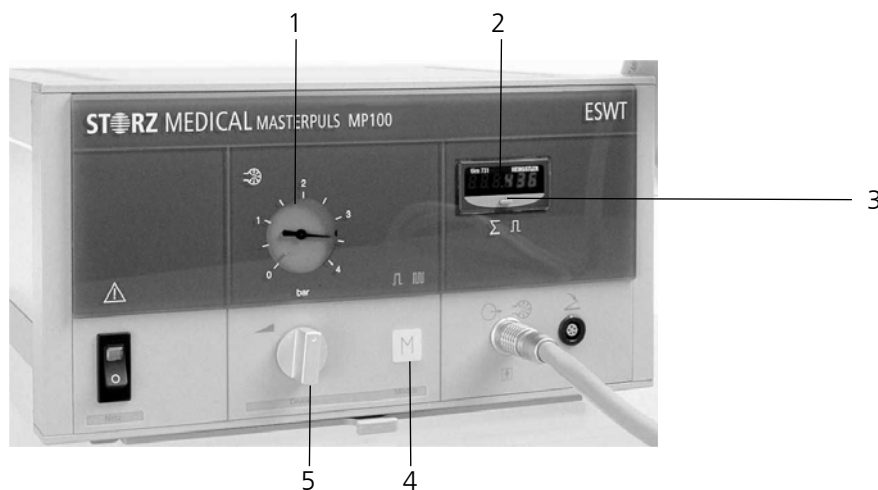

Fig. 3 – 1 Application pressure selection on control system
- Use the control knob (Fig. 3 – 1/5) to select an initial value for the shock application pressure (min. 1.0 bar). The selected value is indicated on the pressure gauge (Fig. 3 – 1/1).
- Select the shock frequency by pressing the M (mode) button (Fig. 3 – 1/4).